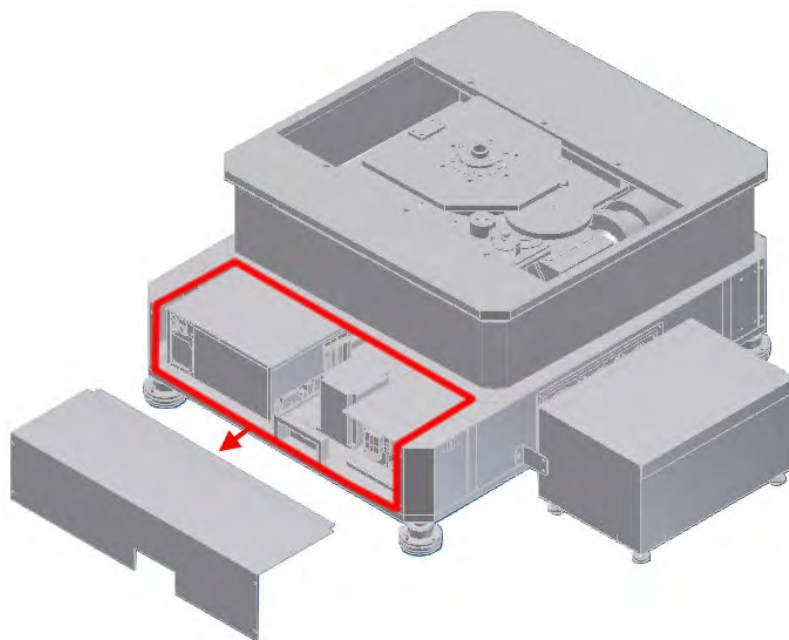

Figure 22 Remove the case
1. Unfasten the screws (arrows as shown in the Figure 21), and then remove the case (Figure 22).